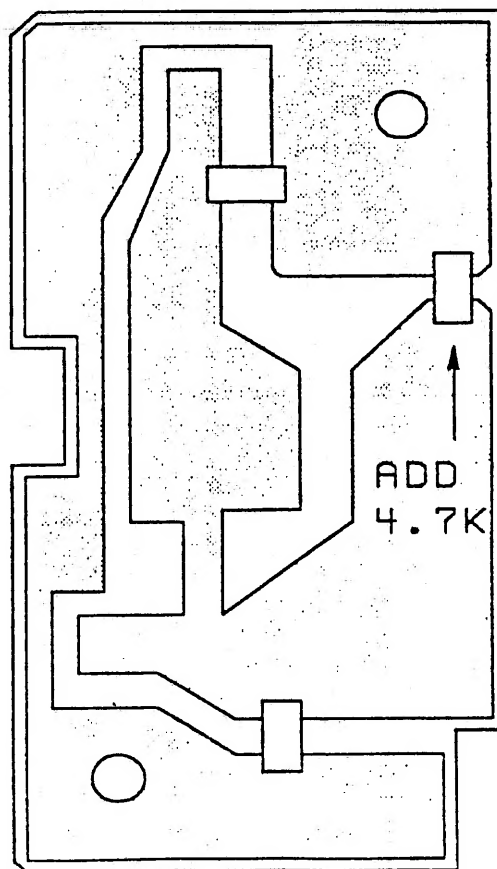

FIGURE 13
44. Solder the remaining 4.7K ohm chip resistor to the foil side of the board. Figure 13